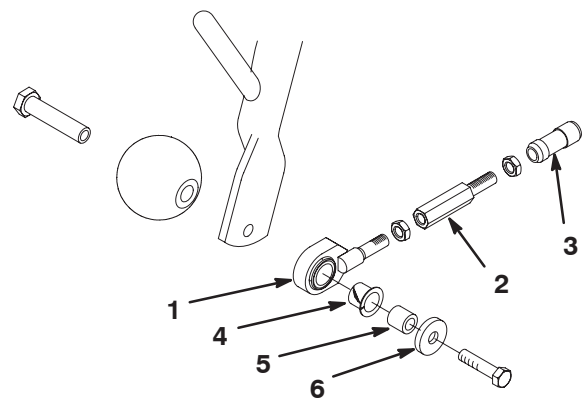

Figure 9
1. Mount an anti-scalp roller and a pull link assembly to the outer end of each front carrier frame with a roller shaft, spacer, washer, and screw (Fig. 9). Make sure the nylon bushing is in the pull link.